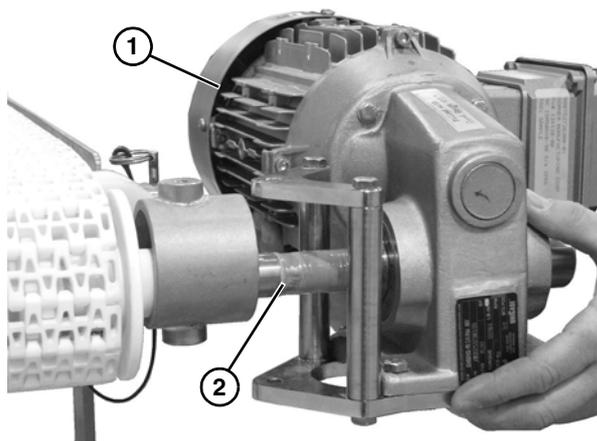

Figure 5
2. Slide the gearmotor assembly (Figure 5, item 1) onto
the drive spindle (Figure 5, item 2).